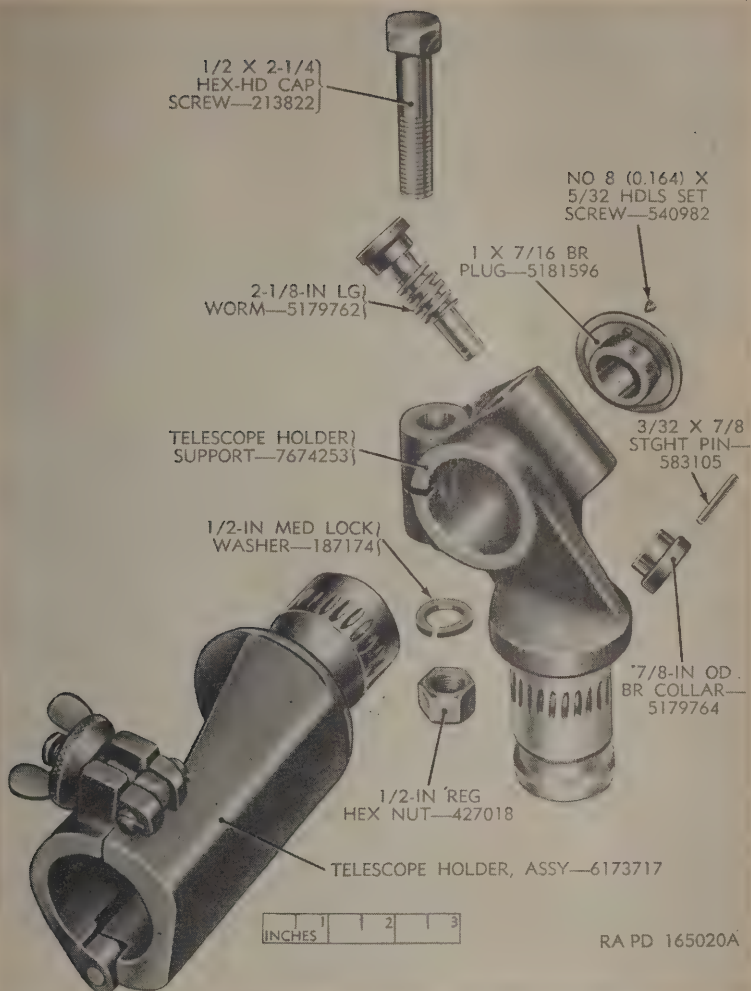

Figure 46. Telescope mount M32—telescope holder support assembly—exploded view.
## 115. Disassembly of the Telescope Holder Support Assembly (fig. 46)
a. Properly support the collar on the end of the worm in the telescope holder support. Press or drive out the straight pin (fig. 46) that secures the collar to the worm. Pull the collar from the worm. Unscrew the worm from the telescope holder support.
(fig. 46)